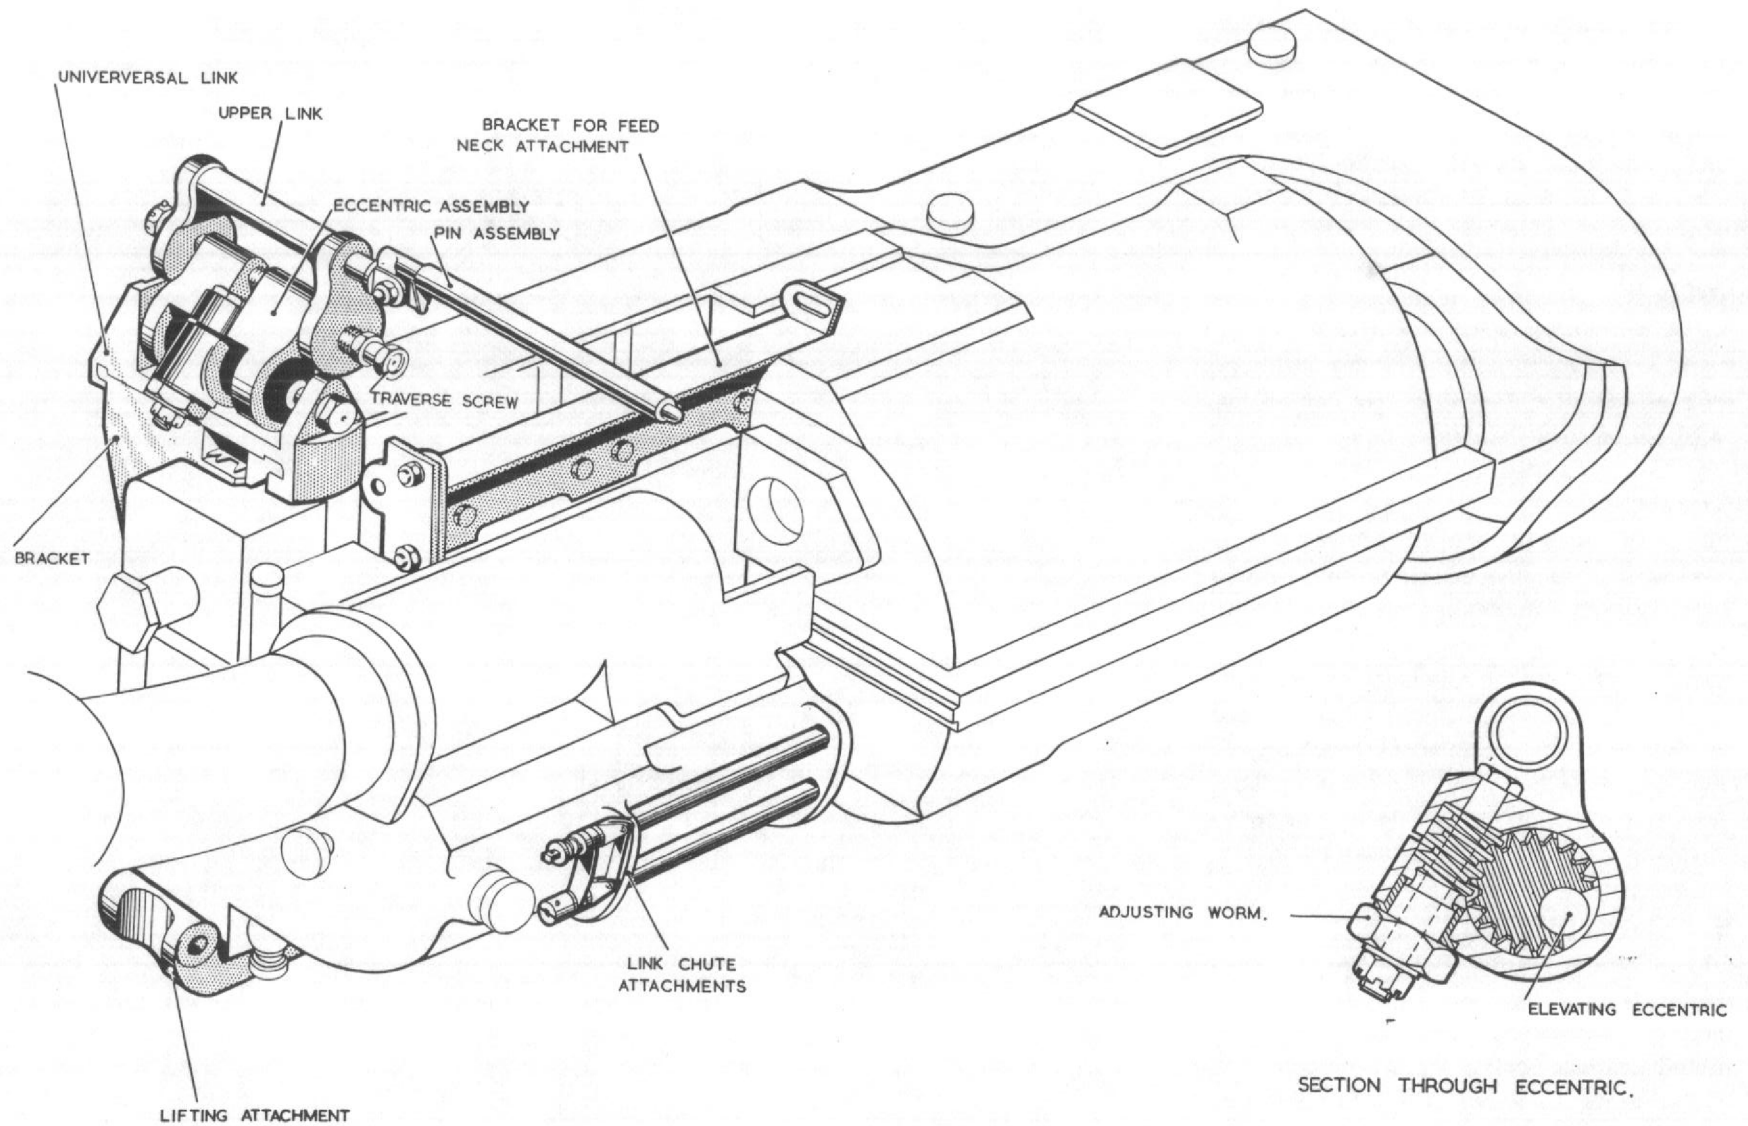

Fig.2 Gun rear mounting, attachment bracket and fittings
### Gun fittings (fig.2)
### Rear mounting (fig.2)
6. The gun rear mounting, which also forms the harmonization assembly, is illustrated in fig.2. The rear mounting engages with the mounting bracket bolted to the rear of the gun cradle (para.4), and the upper link is attached by the gun rear mounting pin assembly to two fittings on frame 15. The assembly consists of a traverse screw and locking sleeve. This screw carries a threaded housing containing a worm-driven eccentric assembly, which supports, by an attachment bolt, a stirrup-shaped universal link for attachment to the gun. The traverse screw and locking sleeve assembly is, as its name implies, used to traverse the gun during harmonization. When the locking sleeve is slackened, rotation of the traverse screw will move the eccentric and housing assembly along the thread of the screw, thus traversing the gun horizontally according to the rotation of the screw. After adjustment, the locking sleeve must be re-tightened to lock the assembly. The eccentric assembly is employed, during harmonization, to elevate the gun to the required angle. Thus, when the nut on the bolt passing through the